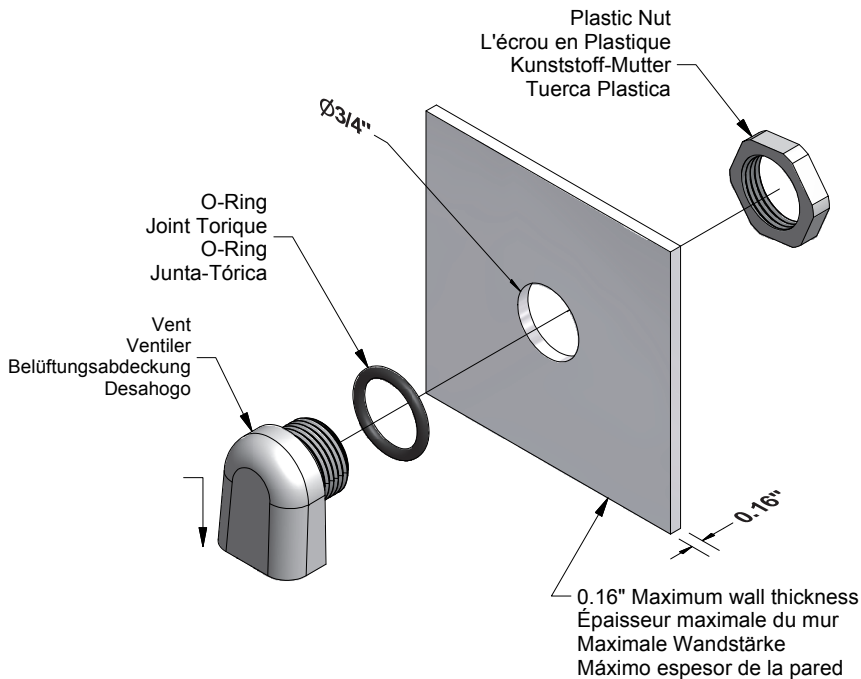

Figure 1
2. Install the vent and o-ring as shown in Figure 1.